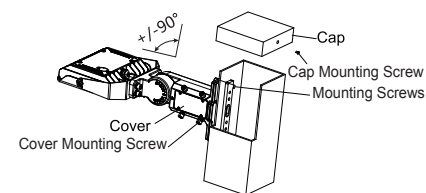

Figure 15
**For square poles,** remove the semi-round adapter plate (leaving the rubber gasket in place), drill 3 holes for mounting screws and wire, position the installation bar inside the pole, pull the wire through the oval hole of the installation bar, then tighten the mounting screws onto the installation bar. (Figure 15)